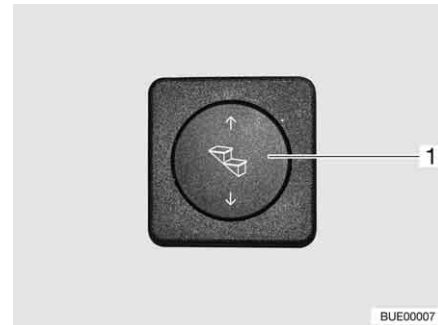

Fig. 9 Operating button for entrance step
- Press the rocker button (Fig. 9,1) down and hold it pressed (at least 3 seconds) until the entrance step has extended completely.
- Press the rocker button (Fig. 9,1) up until the entrance step has retracted completely.